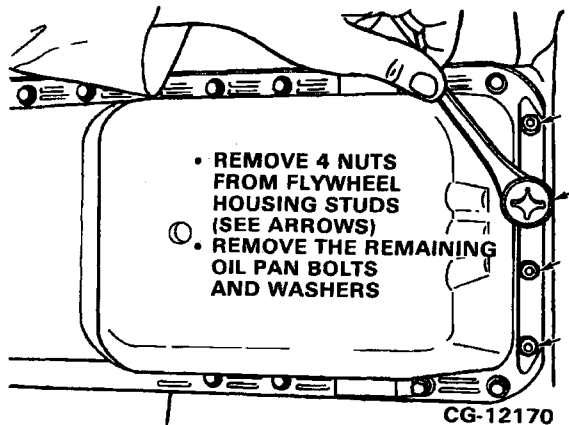

Figure 7.34. Remove Oil Pan Fasteners
- a. Remove the four nuts from the studs at the rear of the oil pan. Refer to Figure 7.34.